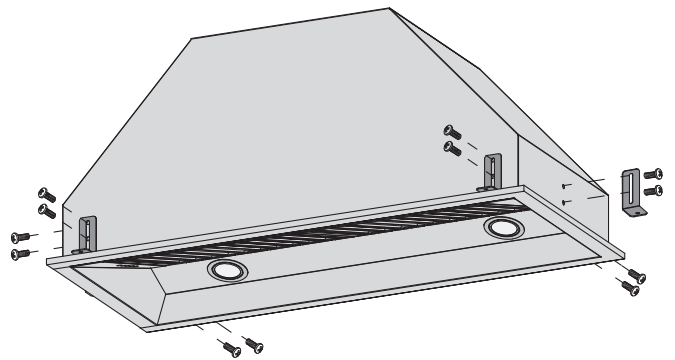

Figure 2
- Using screws and L shaped brackets provided, install each L shaped bracket through pre-drilled mount holes (See figure 2).